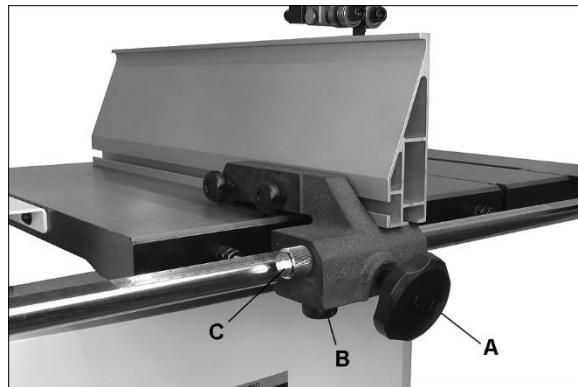

Figure 7-3
Refer to Figure 7-3.
1. Loosen knobs (A, Figure 7-3).
2. Loosen knob (B).
4. Tighten knob (B).
5. Rotate knurled knob (C) to achieve fine adjustment.
6. When setting is reached, tighten fence lock knob (A).